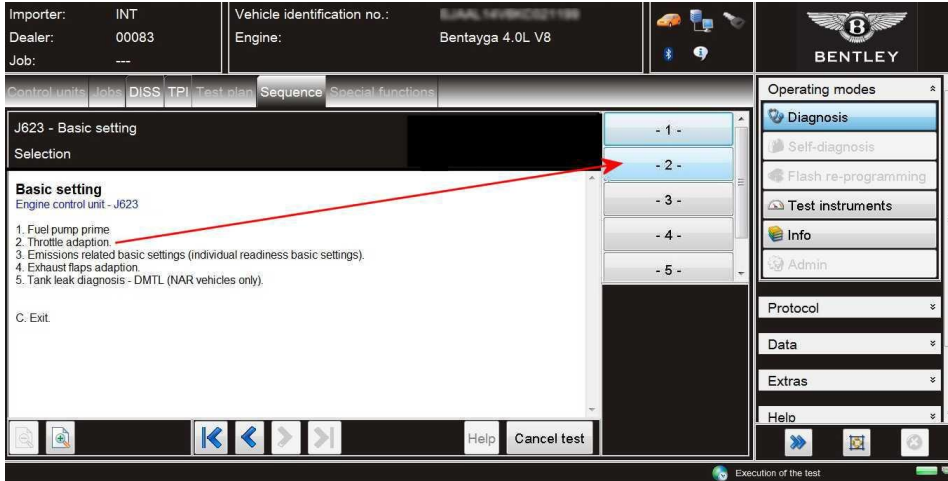

Figure 4
3) Referring to Figure 4 - Select -2- Throttle adaption